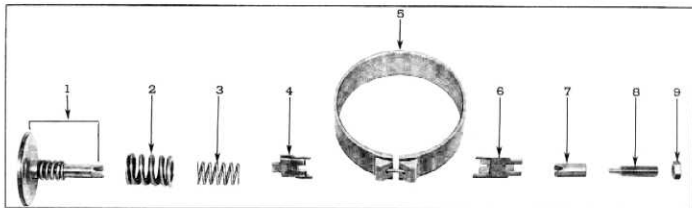

Fig. 201—Layout of Low Brake Band
22. Figure 201 shows layout low brake band assembly.